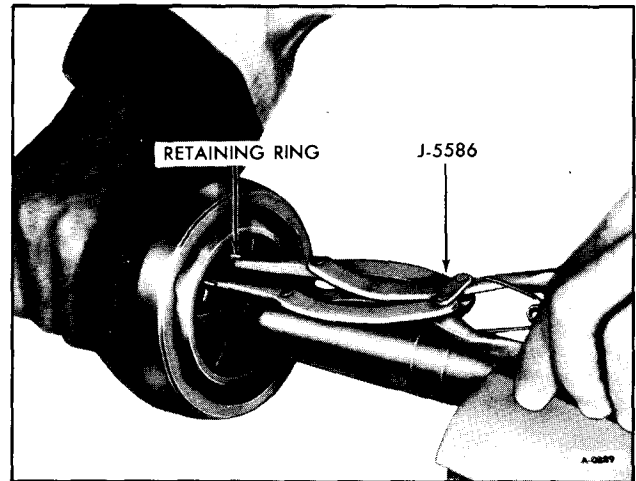

Figure 8—Spreading Retaining Ring
5. Using Tool J-5586, spread retaining ring until C.V. joint can be removed from axle spline. (figure 8)